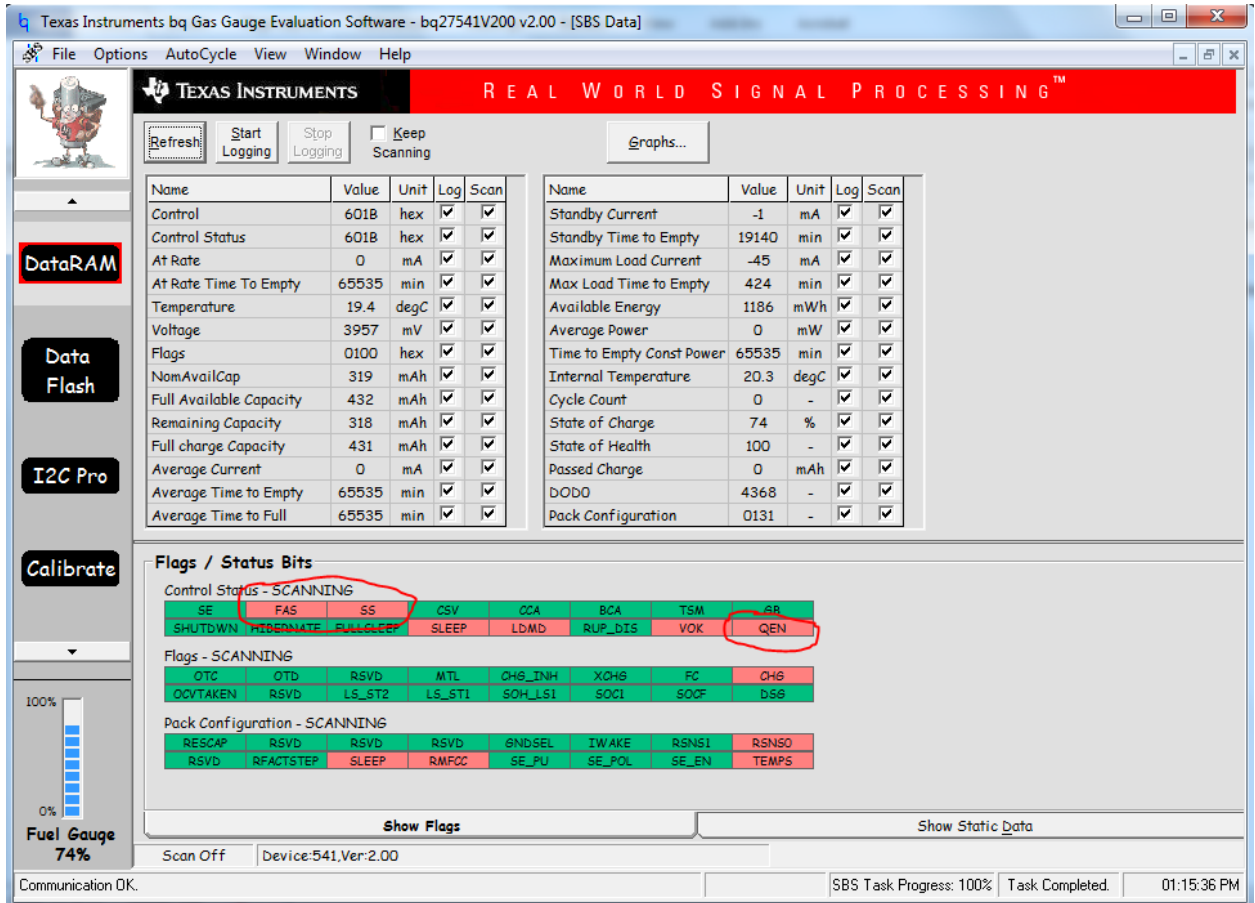

Figure 11: QEN, FAS and SS Bits Set in bq Evaluation Software
13. Verify that the QEN bit, FAS bit and SS bit in the Control Status register is set (red) as shown in Figure 11.
15. Verify that the HIBERNATE in the Control Status register is set (red) as shown in Figure 11.